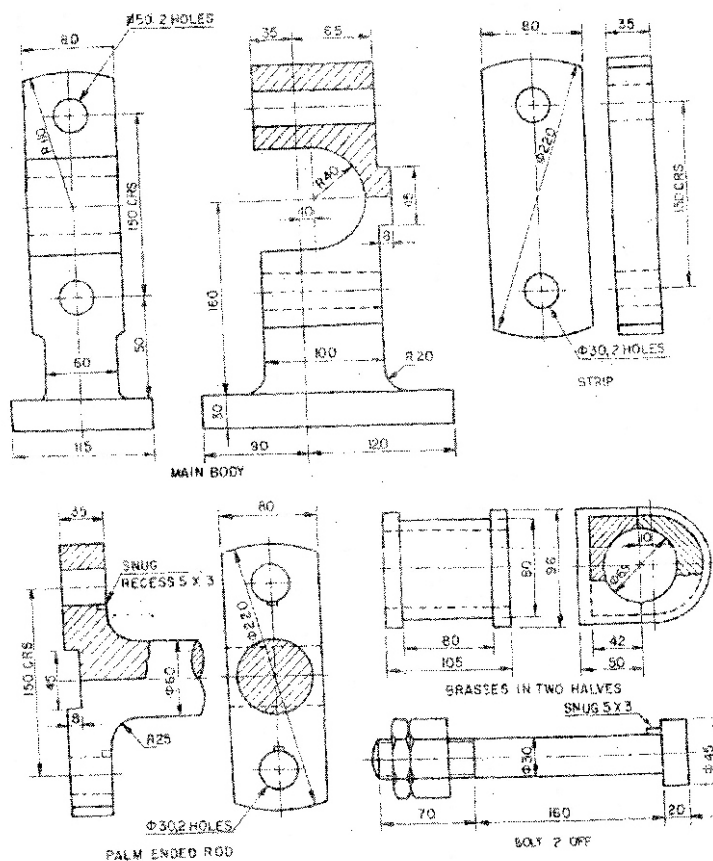

Fig. 1
**Instructions :** (1) Answer *any one* question and it carries **forty** marks.
(2) All dimensions are in mm.
(3) Choose suitable scale.
5. Assemble the parts of steam engine cross head shown in Fig. 1 and draw the following views : 25+15